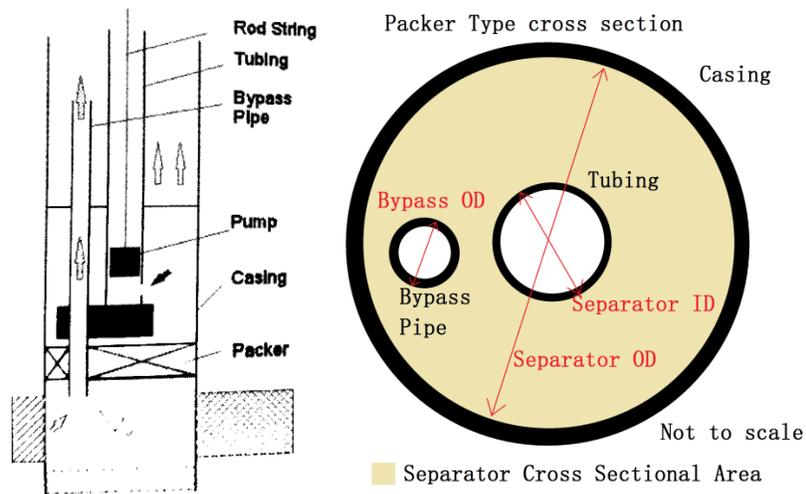

Figure 58 - Packer Type Separator Schematic
- **Separator OD:** Outer diameter of the annulus flow region of the separator, as shown in Figure 58.
- **Separator ID:** Inner diameter of the annulus flow region of the separator, as shown in Figure 58.
- **Bypass Pipe OD:** Outer diameter of the bypass pipe, as shown in Figure 58. This is only available for packer type separators.